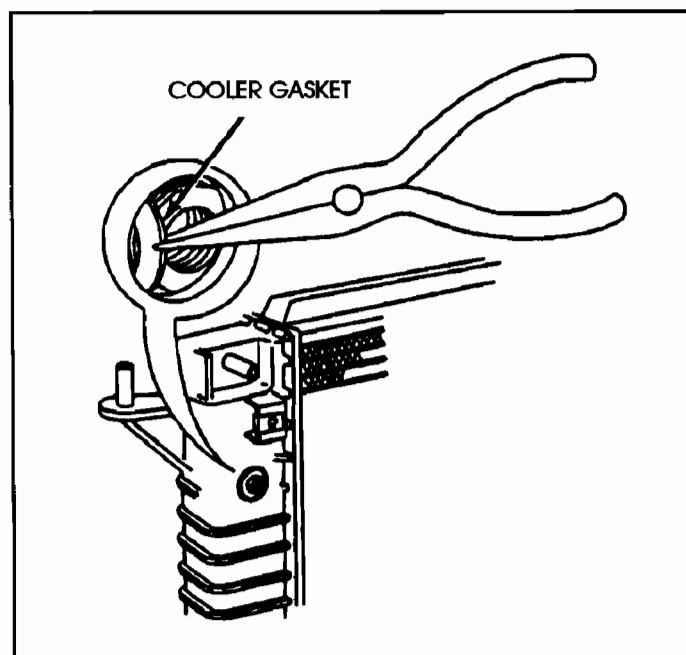

Figure 4
- (5) Remove the old gasket, as shown in Figure 4.
- (6) Install a new Transmission Oil Cooler Gasket part number E77Z-8C242-AA, by placing the gasket over the cooler fitting, pushing down on the oil cooler and carefully working the gasket around the fitting into position.
- (7) Reinstall the washer and jam nut, and torque the jam nut to 11-14 ft.lb.
- (8) Reinstall the transmission oil cooler line fitting and torque to 17-24 ft.lb.
- (9) Repeat the steps above for the other cooler fitting if necessary.
- (10) Reinstall the radiator and refill the transmission and cooling system.